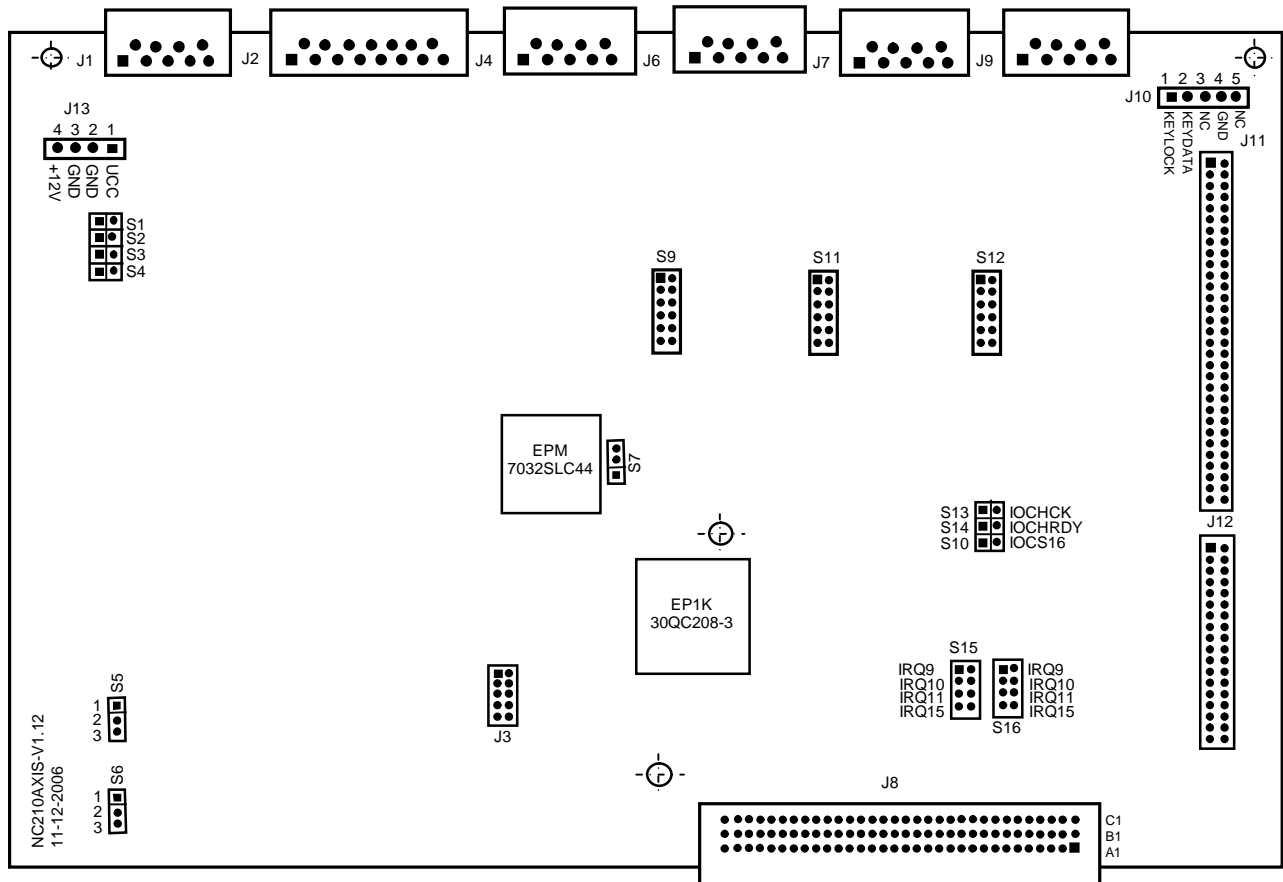

Figure A.2 – Arrangement of Connectors and Jumpers of the NC210-25 Card
11.1.2.1 The arrangement of connectors and jumpers of the **ECDA** card (NC210-25 V1.12) is shown in Figure A.2.